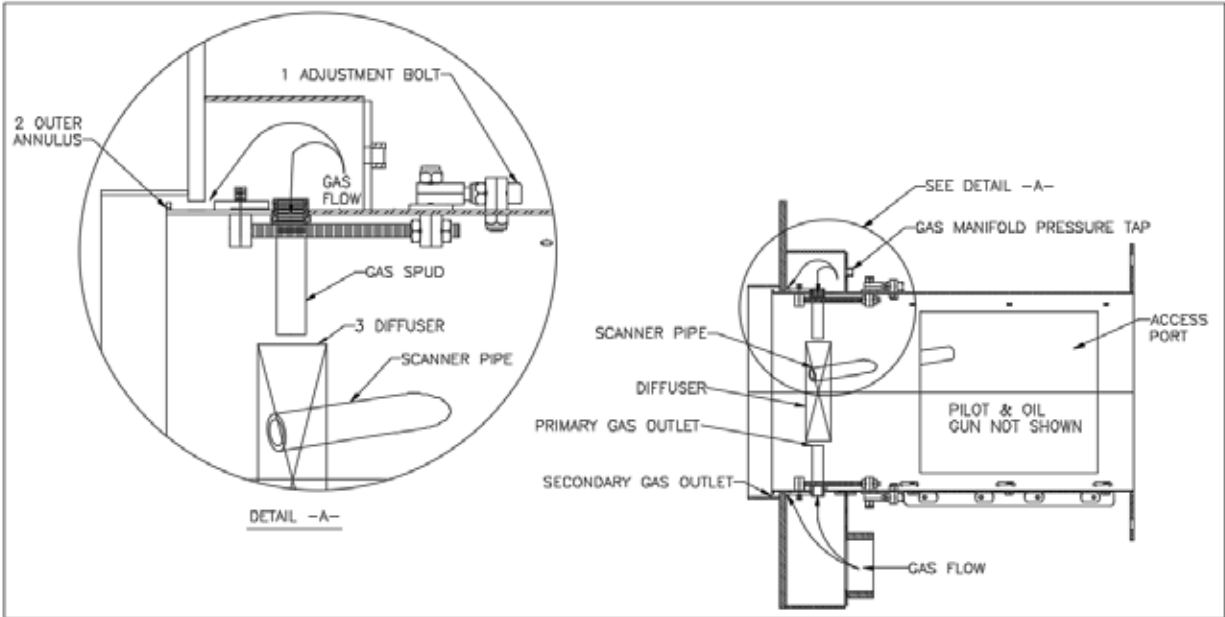

Figure 8: Burner Head Adjustment Details
- 3.2.4 Also, refer to Figure 8 for burner head adjustment details. As shown, there are four adjusting rods located on the outside of the blast tube. These rods can be adjusted to vary the gas ratio between the diffuser and outer gas annulus. Turning the bolts (Item 1 in Fig 8) in a clockwise direction will increase the gas flow to the outer gas annulus (Item 2 Fig 8). The normal setting as shipped from the factory is 1 ½ turns back (clockwise) from the full closed, full forward position. The gas distribution may be changed to improve overall performance of the burner on individual boiler/heat exchangers. Avoid excessive opening (clockwise) as this may lead to loss of flame retention. All adjustments should be made at ¼ turn increments to avoid binding. Also, a ¼ turn adjustment is a large adjustment. Go slowly to avoid over-adjusting the desired setting. After the burner is mounted and all wiring and piping has been completed, tested, and determined to be correct, the following procedures are recommended.
- 3.3.5 Close main checking and pilot gas cocks. Install one gas pressure gauge to read burner firing manifold pressure (use 0-36” W.C. gauge or a manometer). See Figure 3 and Figure 8 for pressure sensing locations. Install a second gas pressure gauge to read gas supply pressure between the main gas cock and the inlet to the main gas pressure regulator (use a 0-5 psi gauge or as appropriate). If there is no tapping in this location, install a tee at the point where the pilot gas supply is connected to the main gas line. Slowly open the main gas cock in order to determine that the incoming gas pressure is within the specified limits of the main and pilot gas pressure regulators, automatic fuel valves and gas pressure switches.